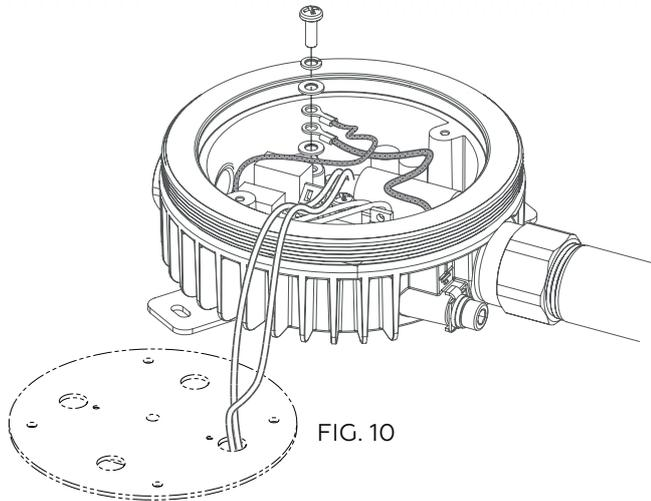

FIG. 10
- For RV 120-277 VAC power supplies (OPTION #1 and OPTION #2), connect internal ground wire to ground screw-in type connector marked GROUND (See Fig. 10).